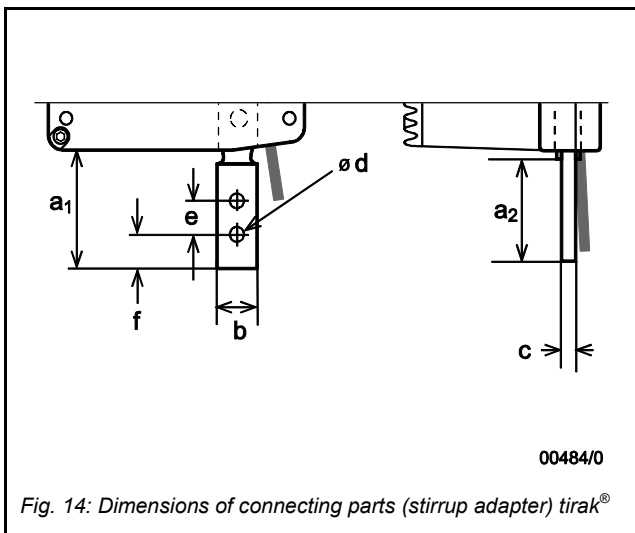

Fig. 14: Dimensions of connecting parts (stirrup adapter) tirak®
- (1) Bolt the hoist to the platform stirrup using stirrup adapter, which also holds the hoist in its upright position (see Fig. 14).
- (2) Use 1/2 inch diameter grade 5 or better bolts with locking nuts.